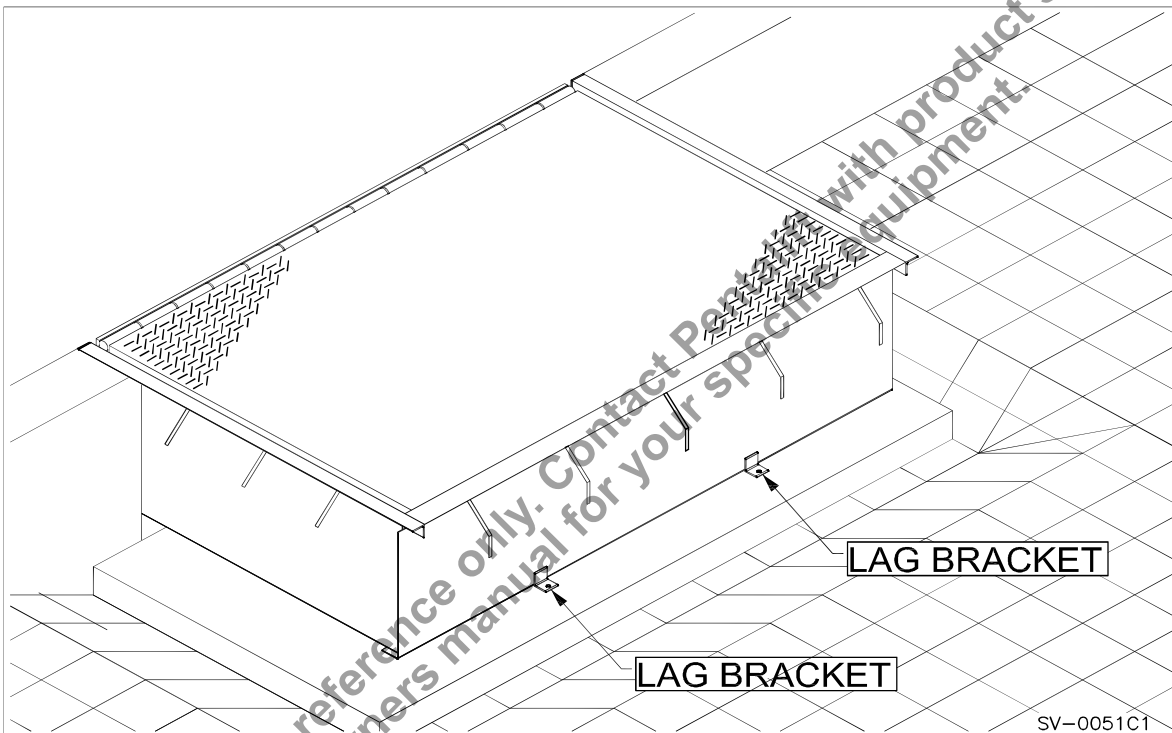

Figure 42: Dock Leveler in Position
3. ___ Position the dock leveler into the foundation cutout (see “Figure 42: Dock Leveler in Position” on page 35).
6. ___ Securely brace the dock leveler to prevent any movement or “floating” during the pouring of the concrete. Use lag bolts in the provided lagging brackets to assist in securing the dock leveler (see “Figure 42: Dock Leveler in Position” on page 35). Note that these brackets are intended to assist in bracing the dock leveler and that consideration and use of additional supporting means may be required. Prior to installing the lags confirm that if shims are utilized the lag bolt length is increased to accommodate for the shimming, allowing proper and sufficient lag penetration into the concrete.